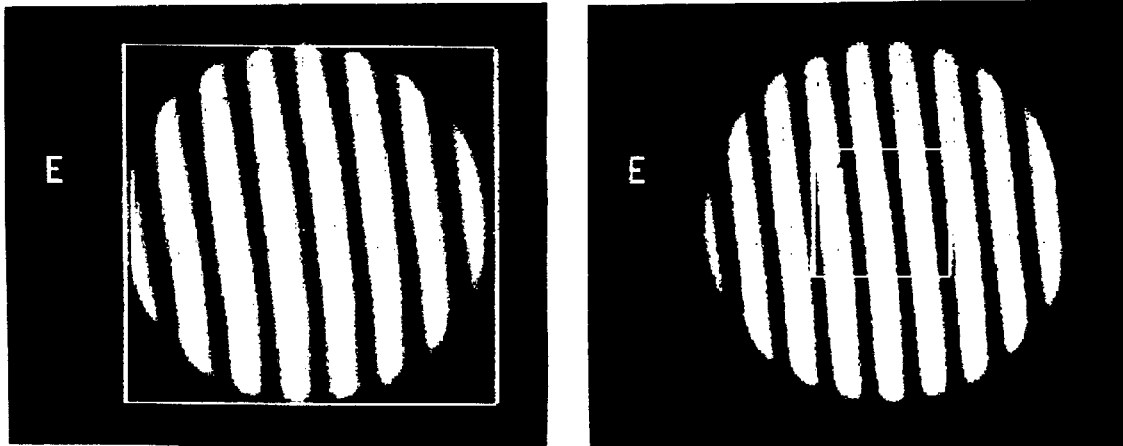

Figure 6-5 Cursor Positioning
- d. Use the TOP, BOTTOM, LEFT, and RIGHT switches to move the vertical and horizontal cursor lines to the desired position. See Figure 6-5 for a representative sample of possible cursor positions.